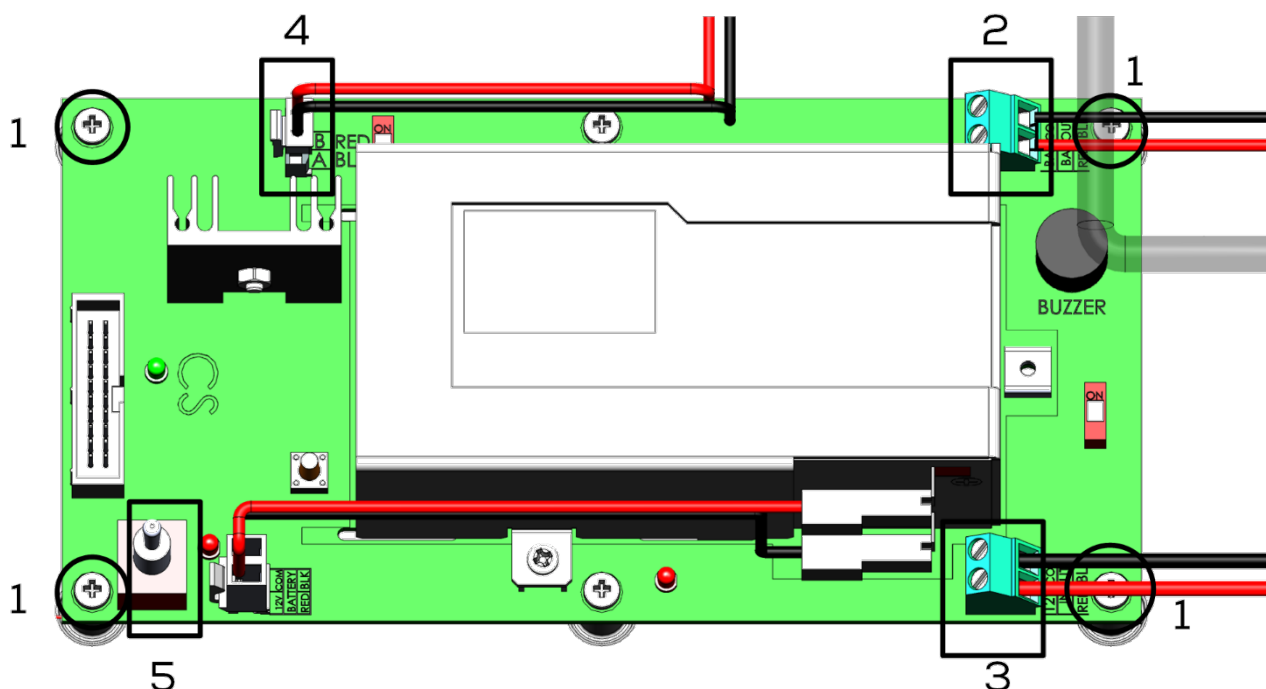

Figure 66: Trio Alarm Battery Installation, Expanded
- If the battery is ordered as an upgrade, install the unit as shown in Figure 66.
CAUTION Turn off the alarm battery before restarting the Trio. Switch the toggle switch to off. See Figure 66.